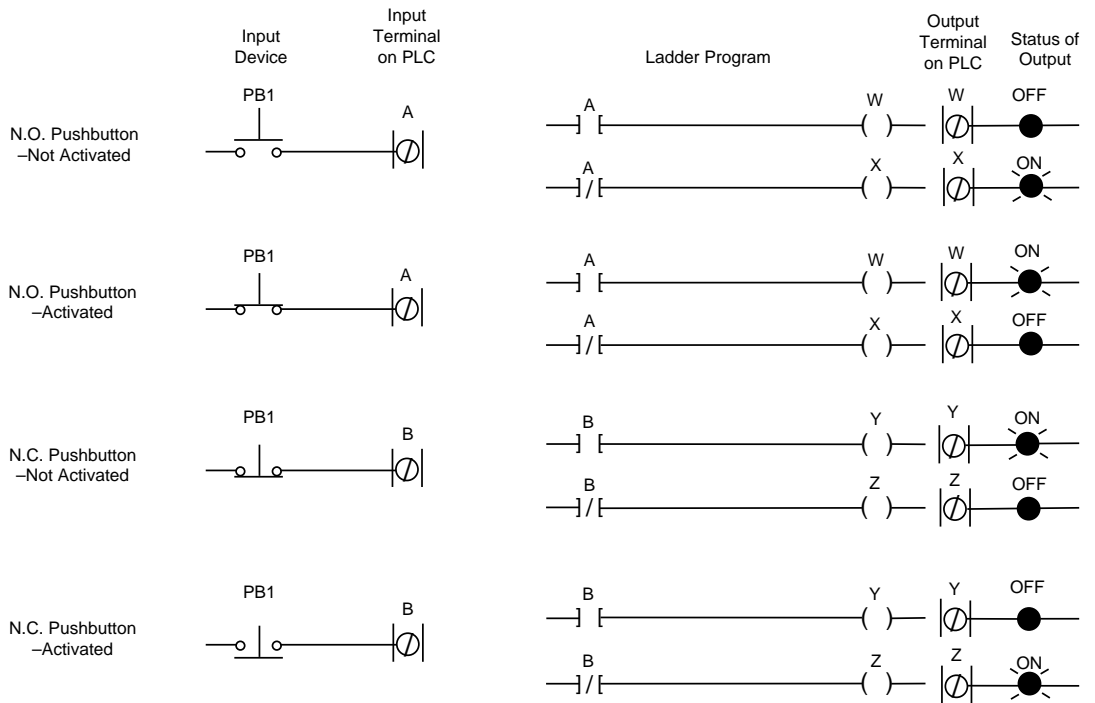

Fig. 4-8 Condition instructions and their results.
*Remember to make a distinction between the physical input device and its ladder logic representation, and note that an instruction in a ladder program is programmed independently of how the input device is wired. Therefore, the status of a N.O. pushbutton can be tested with a N.C. instruction, and vice versa. Fig. 4-8 demonstrates all the possible combinations and their results. Also remember that when PLC instructions change state (e.g., make a False-to-True transition), a normally open instruction does not change to a normally closed instruction. Where electromechanical relay contacts open and close, PLC instructions test a memory location for a 1 or 0.*